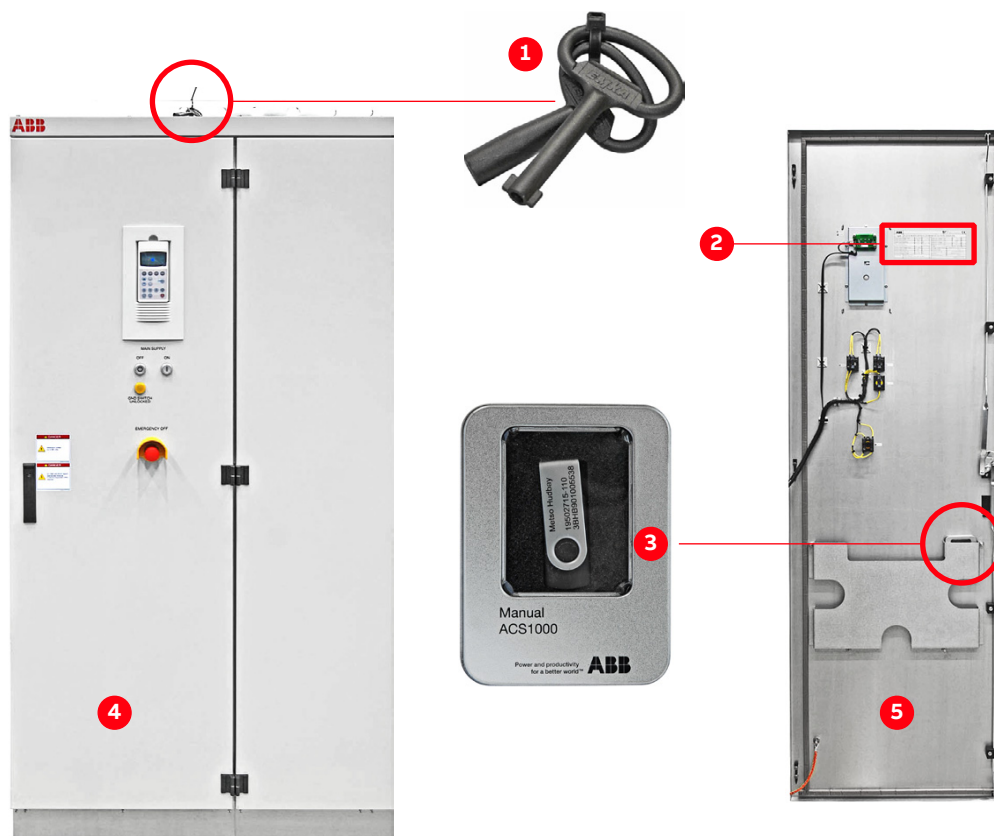

Figure 1-1: Delivered items
- Set of door keys attached to lifting rail (1 in Fig. 1-1)
- Rating label (2 in Fig. 1-1)
- Box with USB stick (3 in Fig. 1-1), which contains the user manual and related documents.